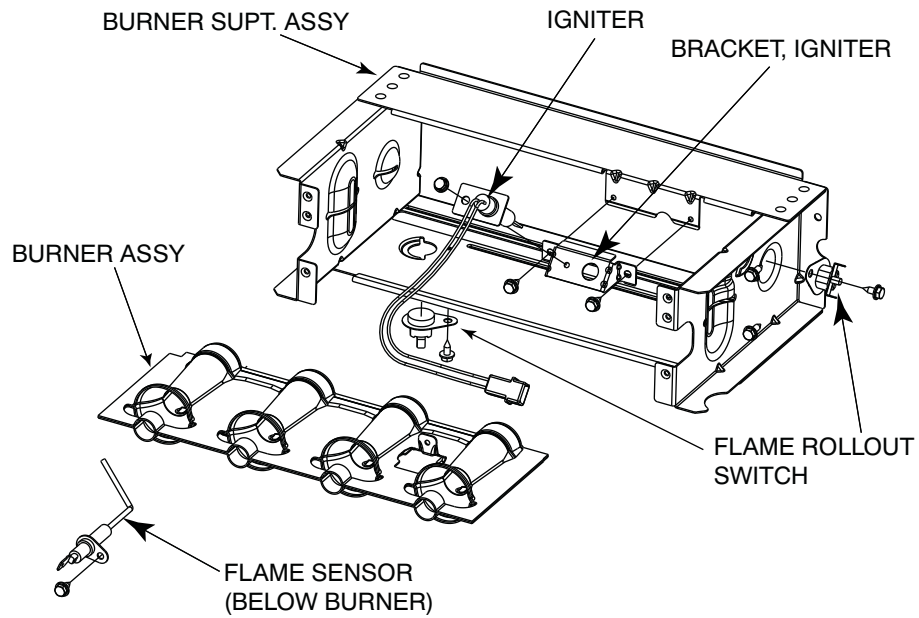

Fig. 72 - Burner Assembly
6. Remove screws attaching burner assembly to cell panel. See Fig. 72.